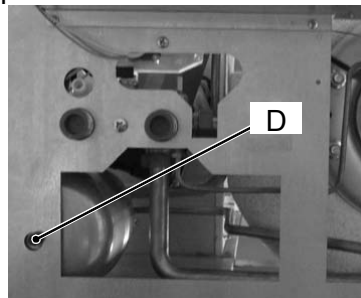

Figure 3
- 4) Remove the protective cap D (Figure 3) from the valve on the bottom of the d.h.w. expansion vessel and connect a suitable air pressure gauge.